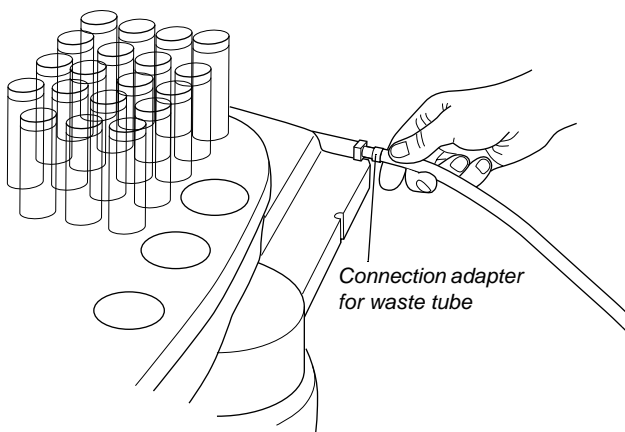

Figure 2-12. Waste tubing connection
- 1 Connect the supplied waste tubing to the waste outlet as shown in Figure 2-12.